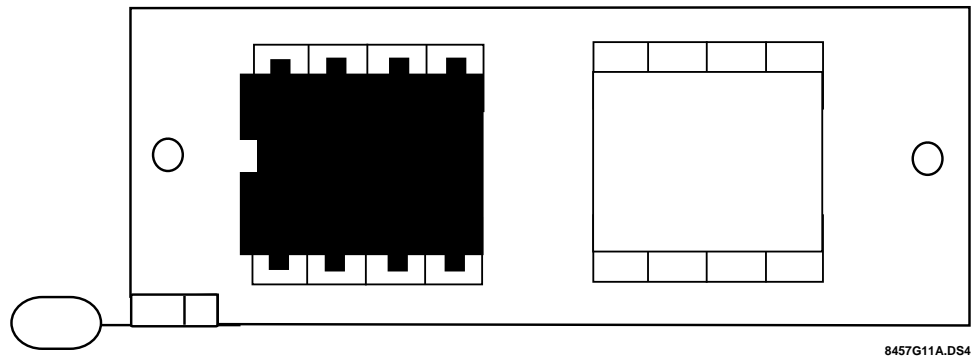

Figure 5: EEPROM Socket
3. Make sure the chip is close to the lever, as shown in Figure 5.